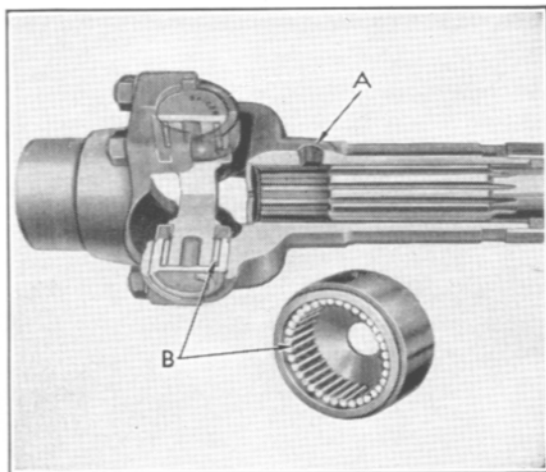

Figure 41
The propeller shaft is of tubular design incorporating needle roller bearing universal joints. The bearings (B), Fig. 41, located in the front and rear joints are lubricated at the time of assembly and require lubrication only at intervals of 20,000 miles. The spline at the front end requires lubrication every 1,000 miles.